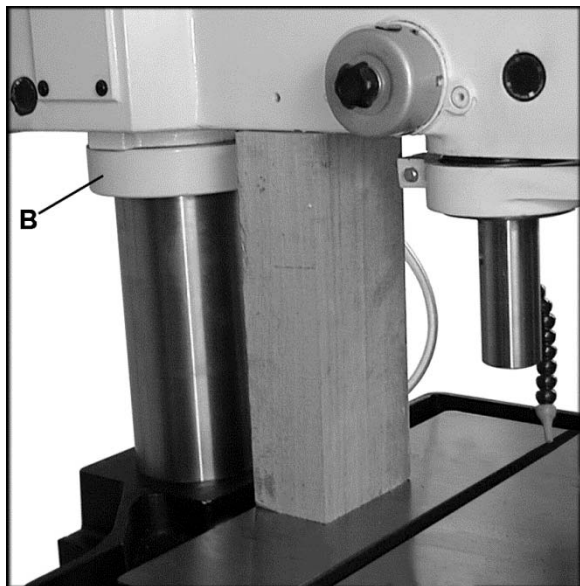
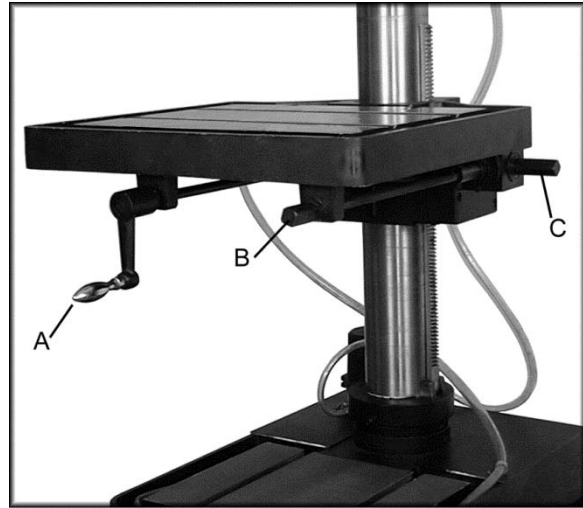

Figure 6
Figure 7
3. Loosen the table lock by placing the handle on the crankshaft (A, Fig. 7) and rotating the handle counter-clockwise
5. Raise the table by placing handle on crankshaft (B or C, Figure 7) and rotating clockwise. Snug the 2x4 between the table and the head as close to the column as possible. **Caution:** Do not place the 2x4 under the lock collar (B, Fig. 6).
6. Use the table lift crank on a shaft (B or C, Fig. 7) to raise the head and 2x4 until the head bore and the column are flush. **CAUTION:** When the head bore and the column cap are flush, the head cannot be raised anymore. Use a ladder to observe the column through the top of the belt cover.
1. Tighten the table lock handle (A, Fig. 7).
3. Raise the rack (D, Fig. 8) by placing the handle on crankshaft (refer to B or C, Fig. 7) and rotating clockwise to the desired level.
1. Loosen the table lock handle (A, Fig. 7).